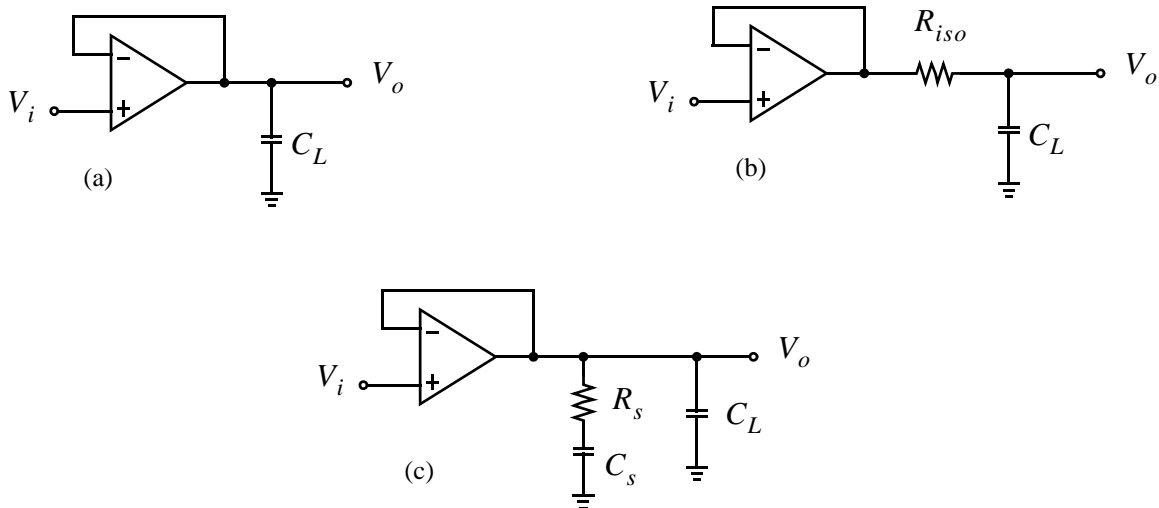

Figure 1: Unity-gain Opamp Circuits
- For the circuit of Figure 1(a), find an expression for open-loop response $L(s)$. Find an expression for the value of load capacitance C_L at which the opamp will exhibit 10%
2. For the circuit of Figure 1(b), find an expression for open-loop response $L(s)$. For the same value of C_L as in part 1, sketch a Bode plot of the open-loop response with R_{iso} in place. What is the effect of R_{iso} ?
3. For the circuit of Figure 1(c), find an expression for open-loop response $L(s)$. For the same value of C_L as in part 1, sketch a Bode plot of the open-loop response with R_s and C_s in place. What is the effect of R_s and C_s ?
1. Simulate the circuit of Figure 1(a) using HSPICE and the opamp model provided on the course website.
2. Repeat part 1 for the circuit of Figure 1 (b). Use a value of $R_{iso} = 50 \Omega$.
3. Repeat part 1 for the circuit of Figure 1 (c). Use values of $R_s = 30 \Omega$ and $C_s = 5 \text{ nF}$.
You should have 6 plots in total. What was the effect of introducing the additional compensation components in Figures 1 (b) and (c) upon overshoot and settling time?
1. Connect the circuits in Figures 1 (a) (b) and (c) in the lab reproduce the plots you obtained from simulation, this time measuring them experimentally. Use at least 10 different nicely-spaced values of load capacitance, C_L , to produce good plots. (Of course, you may connect multiple capacitors in parallel to do this.) Use the values for R_{iso} , R_s and C_s that were suggested in the preparation section.